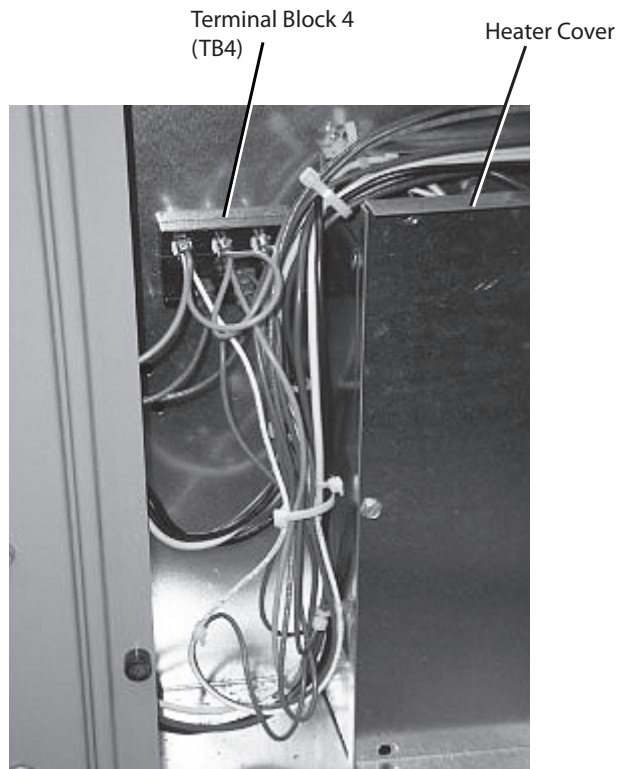

Fig. 46 - Heater Wiring
4. Connect the heater control wiring to terminal block TB4 (located left of heaters, see Fig. 46 and 47.)